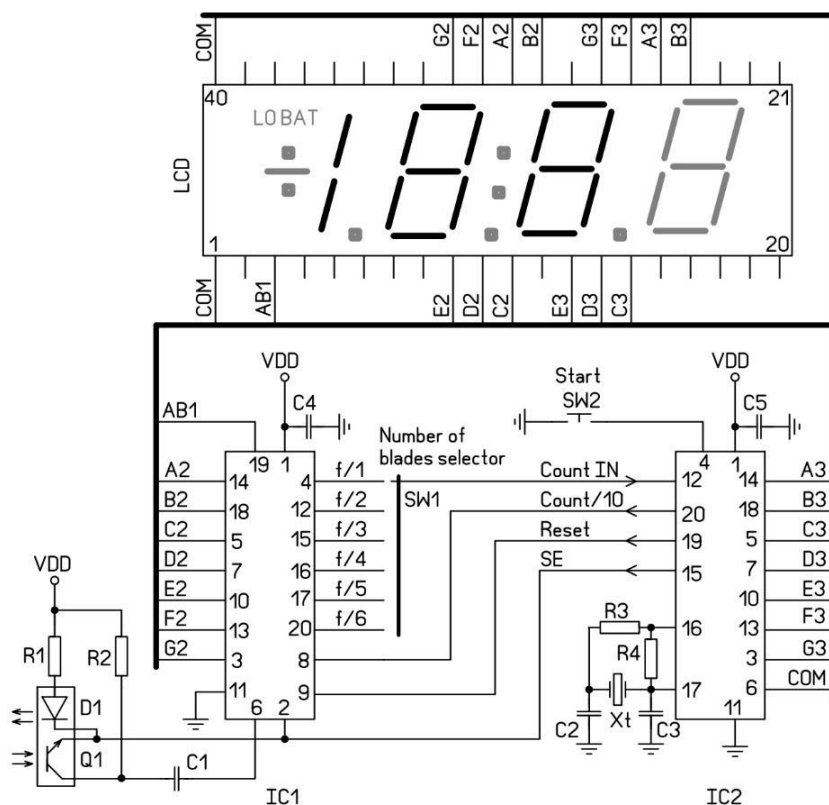

Figure 1. GreenPAK RPS Counter Schematic Diagram
- Counting phase. I_{cc} depends on IR sensor emitter and is set to 20 mA. However, I_{cc} can be reduced by increasing resistance of R1 (see Figure 1), but this will also reduce sensor sensitivity. Counting phase lasts for 1 second after power on or after pressing button “Start”.
To build the RPS counter, two GreenPAK ICs are needed. The SLG46533 was chosen because of the great variety of internal blocks. For full schematic diagram and BOM refer to Figure 1 and Table 1 respectively.